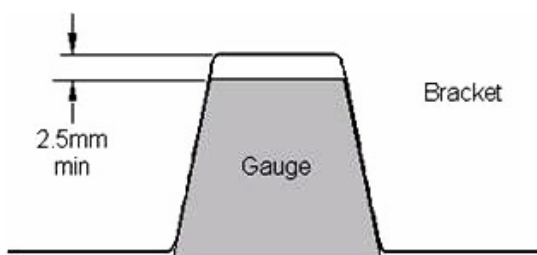

Figure 8: Gauging of Tapered Slots in Pivot Bush Brackets
- E7. Gauge each side of the slotted 'V', see Figure 8, using a gauge manufactured to the tolerances on Drg No. B2-A1-9039194. Using firm hand pressure to locate the gauge into each slot there shall be a minimum gap of 2.5mm between the top of the gauge face and the bottom face of the slotted 'V'.